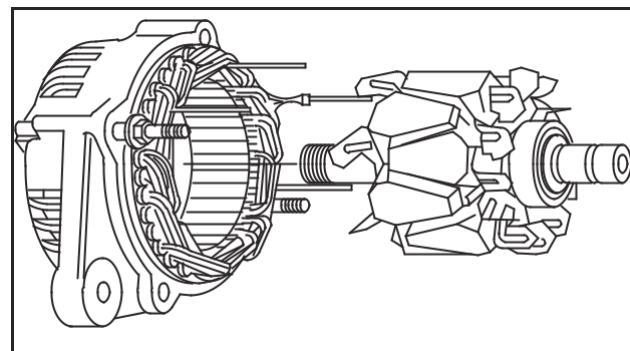

Fig. 37 – Installing Rotor
1. Assemble rotor to drive end housing, Fig. 37.